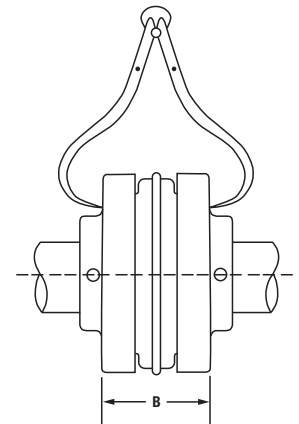

Figure 4 - Angular Measurement
**NOTE:** Check angular alignment by measuring dimension "B" (Figure 4) at four places 90° apart without rotating the coupling. Adjust the equipment until the four measurements do not vary more than the value given under "Angular" in Table 1. If a correction is necessary, recheck the parallel alignment after the correction is made.